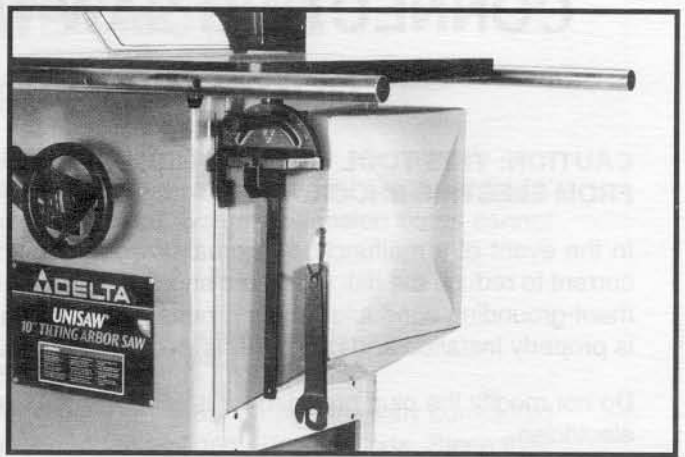

Fig. 37
2. Fig. 37, illustrates the miter gage and wrenches stored on the two holder brackets.